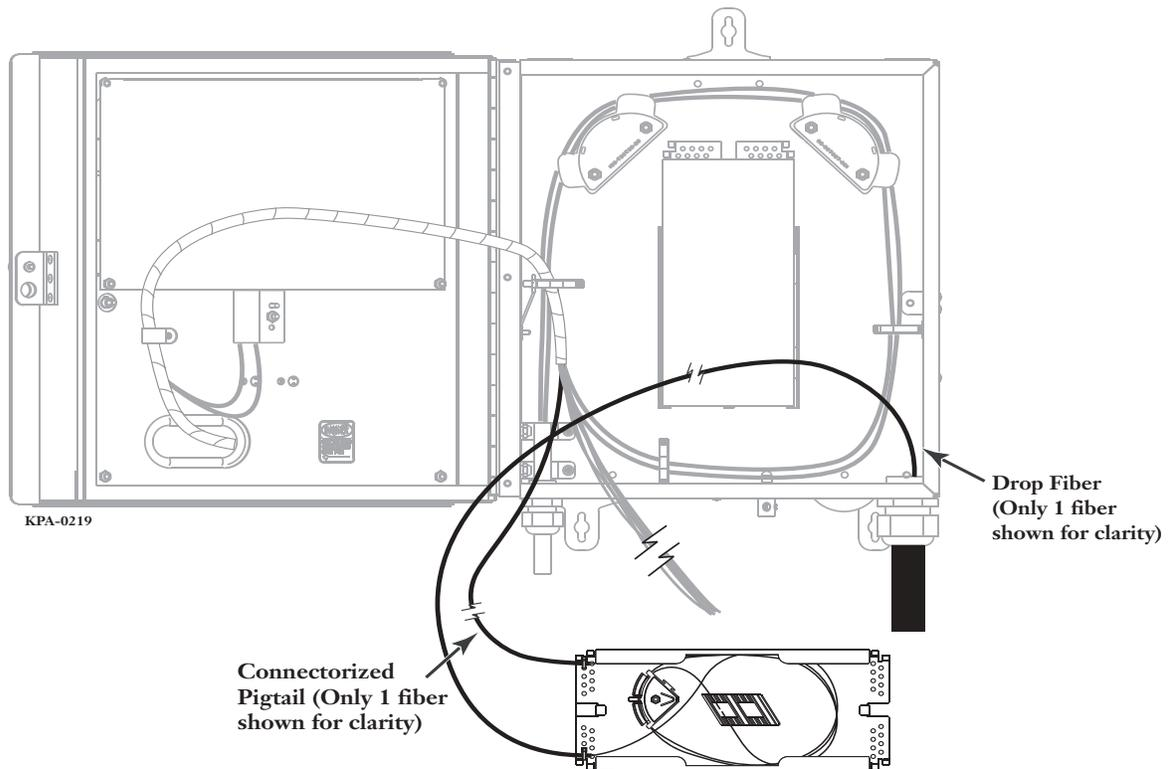

Figure 4 — Splice Drop Fiber to Pigtail Fiber
Step 1 Remove the splice trays from the splice tray holder. Bring the splice trays to a work surface and remove the cover from the first splice tray (Figure 4).